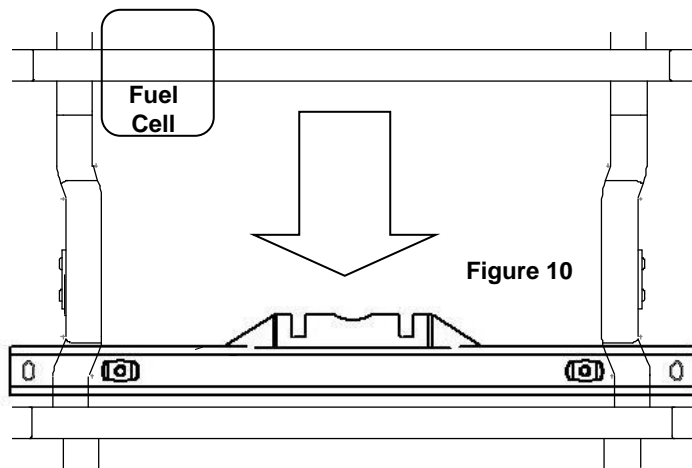

Figure 10
Step 16B : Slide the rail rearward, parallel with axle, resting on both frame rails, and as close as possible to the rear hat channel (Figure 10).